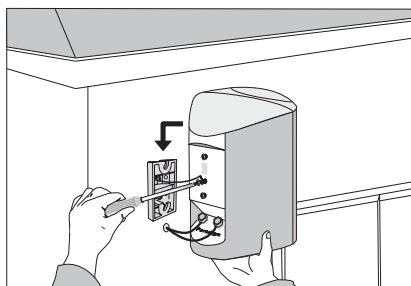

Fig. 3b
3. Bring the speaker to the bracket and connect the cables as outlined in the “Connecting the Speakers,” page 6. Connect the safety strap to the speaker using the middle hole (Fig. 3b). Mount the speaker onto the bracket using an ‘in and down’ motion.